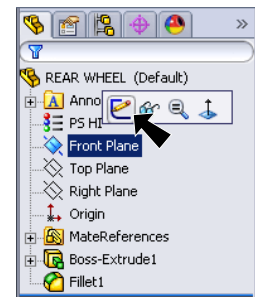

Fig. 18
Step 1. Click **Front Plane**  in the Feature Manager and click **Sketch**  from the Content toolbar, **Fig. 18**.